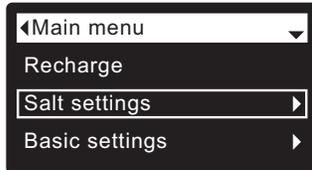

FIG. 35
1. From any of the rolling status screens, press the SELECT (O) button to display the **Main menu**.
2. Press the DOWN (▼) button to scroll through the menu options until **Salt settings** is highlighted (See Figure 35).